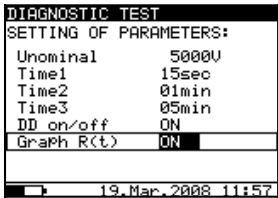

Fig. 18 Set-up menu in Diagnostic Test measurement
- Press the SELECT key, Set-up menu appears on display, see the **Fig. 18**.